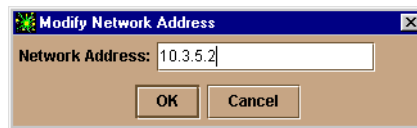

Figure 6-2 Modify Network Address Dialog Box
1. Display the Modify Network Address dialog box (Figure 6-2) in either of these ways: